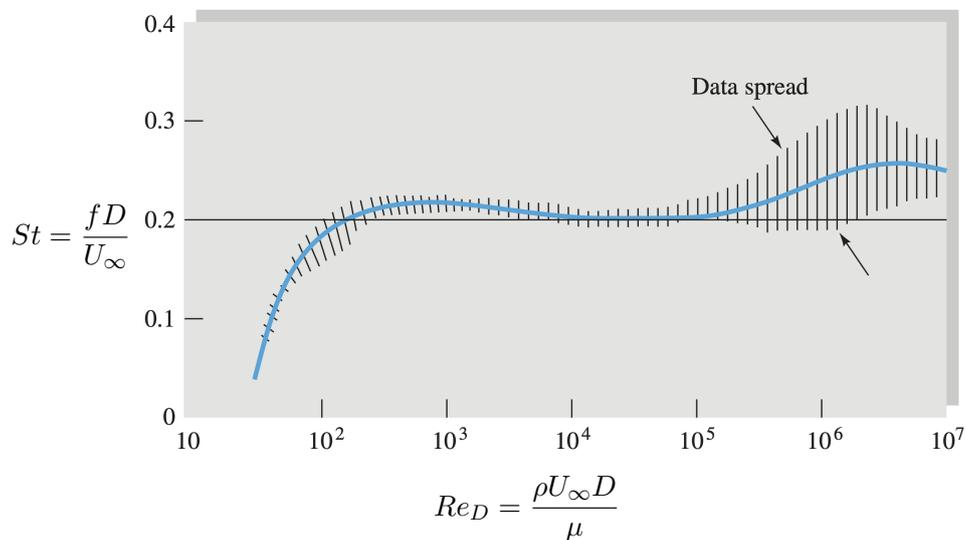

Figure 8.3: Cylinder Strouhal number versus Reynolds number
- Compare your result with the data presented in Figure 8.3. Does your result agree with the data presented in the figure?